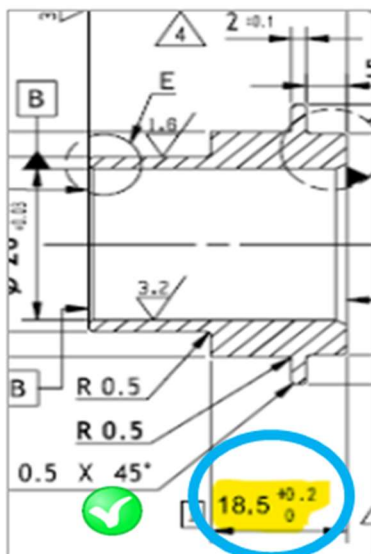
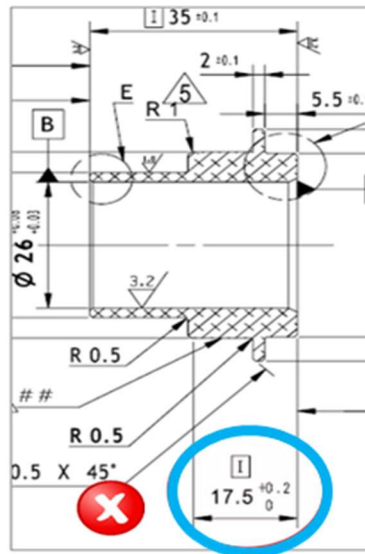
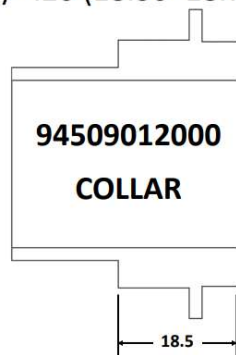

Figure 1 – 18.5mm OK
Figure 2 – 17.5mm NOK
Figure 3
- Take out front wheel collars and measure dimension (see Fig.1, Fig. 2 and Fig. 3).